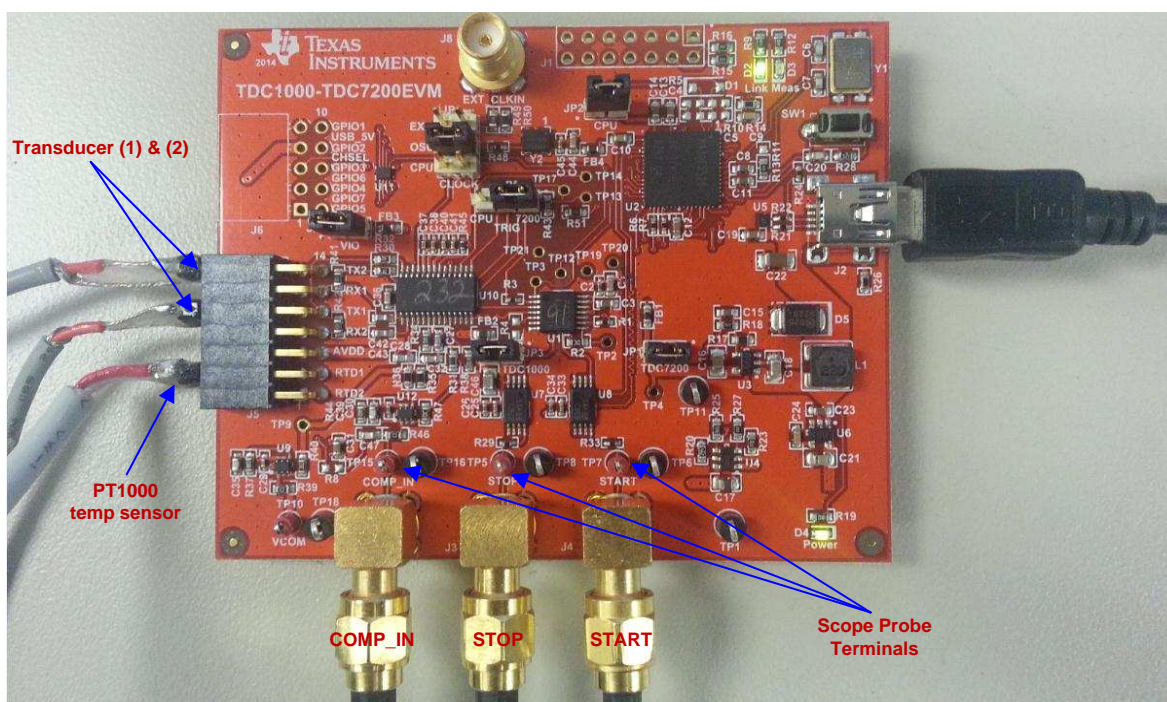

**Figure 5. Ultrasonic Flow-meter Sensor Pipe**
For demonstration purposes, we use an Audiowell ultrasonic water flow-meter pipe shown in Figure 5. This sensor can be obtained from the source included in the reference section.
2. Obtain the ultrasonic water flow sensor shown in Figure 5 from the source in the reference section of this document (Audiowell). The union and the pipe extension are not necessary for zero flow test but you would need the end caps to confine water in the pipe for the test. The RTD temperature sensor is not included in the sensor and can be obtained from a different manufacturer. The RTD used in this setup is a JUMO PT1000. If you need to use a PT500 temperature sensor, you would need to change the temp sensor reference resistor (RREF) on the TDC1000-TDC7200EVM to 500  $\Omega$  (the EVM board comes with a 1000- $\Omega$  resistor reference resistor).